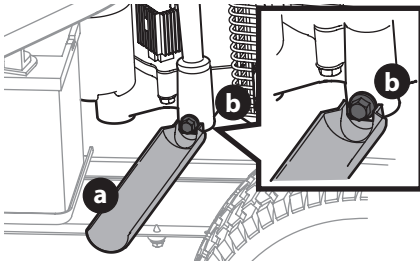
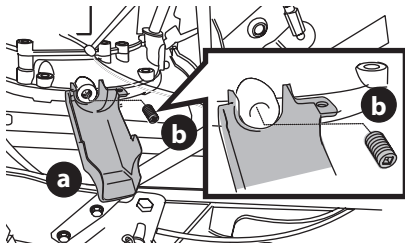

Figure 7
Figure 8
5. Snap the small end of oil drain sleeve (a) onto the space provided around the oil drain plug (b). See Figure 7 or Figure 8 for the two possible oil drain sleeves and refer to the applicable image for your riding mower.